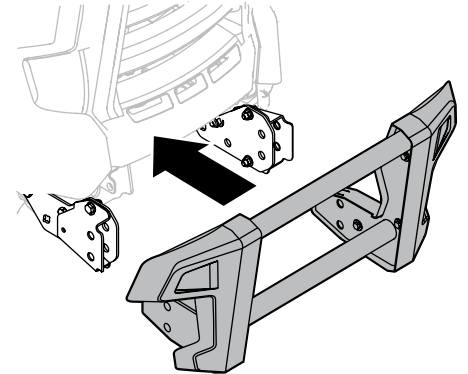

Figure 2-17
3. Align the brush guard assembly with the FastAttach™ brackets and push assembly together. See Figure 2-17.